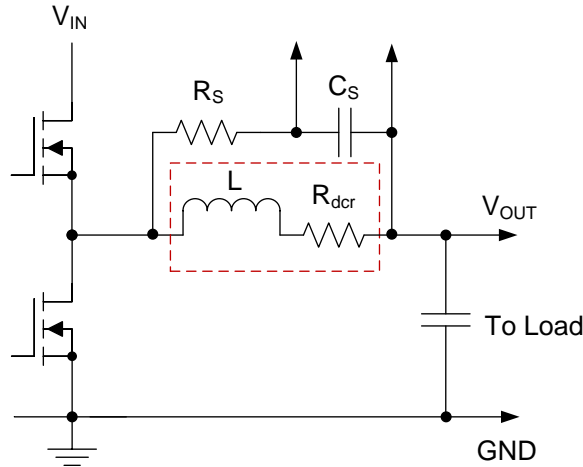
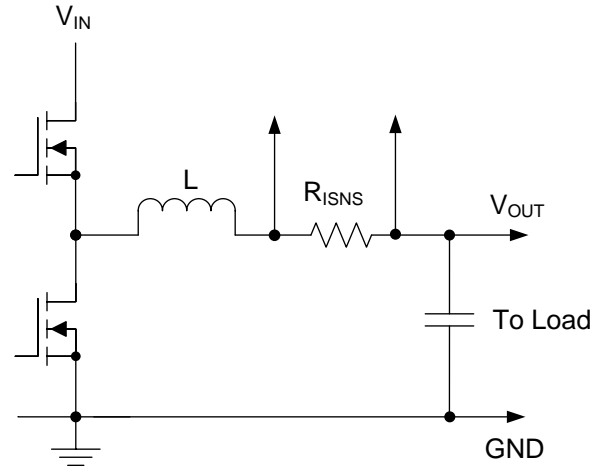
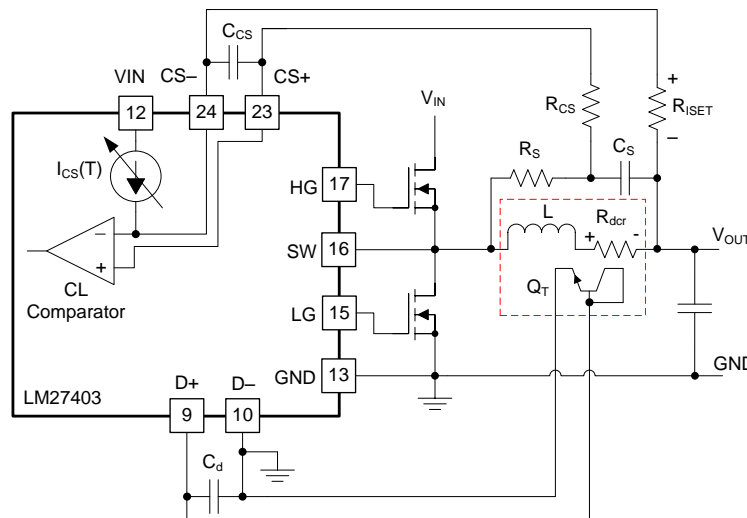

Figure 31. Current Sensing using Inductor DCR
Figure 32. Current Sensing using Shunt Resistor
Figure 33. Current-Limit Setpoint Defined by Current Source I_{CS} and Resistor R_{ISET}
As mentioned, the LM27403 implements an inductor DCR lossless current sense scheme designed to provide both accurate overload (current limit) and short-circuit protection. Figure 31 shows the popular inductor DCR current sense method. Figure 32 shows an implementation with current shunt resistor, R_{ISNS} .
Components R_{S} and C_{S} in Figure 31 create a low-pass filter across the inductor to enable differential sensing of the inductor DCR voltage drop. When $R_{\text{S}}C_{\text{S}}$ is equal to L/R_{dcr} , the voltage developed across the sense capacitor, C_{S} , is a replica of the inductor DCR's voltage waveform. Choose the capacitance of C_{S} greater than 0.1 μF to maintain low impedance of the sense network, thus reducing the susceptibility of noise pickup from the switch node.
The current limit circuit arrangement is portrayed in Figure 33. The current limit setpoint is set by a single external resistor, R_{ISET} , connected from the CS– pin to the output voltage terminal. The current sourced from CS– in combination with this series resistance sets the reference voltage to the current limit comparator, as governed by Equation 8.
Inductor DCR temperature compensation is automatically provided using the remote-diode sensed temperature. The temperature coefficient (TC) of the inductor winding resistance is typically 3720 ppm/°C. The current-limit setpoint is maintained essentially constant over temperature by the slope of CS– pin current over temperature. An increase in sensed DCR voltage associated with an increase of inductor winding temperature is matched by a concomitant increase in current limit comparator reference voltage. The inductor temperature is measured by placing an external diode-connected 2N3904 discrete NPN transistor, designated Q_T in Figure 33, in close proximity to the inductor (see the TEMPERATURE SENSING: D+ and D– section for more details).
Note that the inductor DCR is shown schematically as a discrete element in Figure 31 and Figure 33. The current-sense comparator inputs operate at common mode up to the input rail voltage. The comparator incorporates a very low input-referred offset to reduce the SNR of the voltage detected across the inductor DCR. The CS– pin current is specified down to a headroom compliance voltage of less than 0.8 V (that is, $V_{VIN} - V_{CS-}$) and over the full operating temperature range (see the ELECTRICAL CHARACTERISTICS Table and Figure 14). The current source is powered from the input to allow the current limit circuit to work in high duty cycle applications.
With power inductors selected to provide lowest possible DCR to minimize power losses, the typical DCR ranges from 0.4 mΩ to 4 mΩ. Then, given a load current of 25 A, the voltage presented across the CS+ and CS– pins ranges between 10 mV and 100 mV. Note that this small differential signal is superimposed on a large common-mode signal that is the dc output voltage, which makes the current sense signal challenging to process. To aid in rejection of high frequency common-mode noise, a series resistor, R_{CS} , of same resistance as R_{ISET} , is added to the CS+ signal path as shown in Figure 33. A small capacitor, C_{CS} , added across CS+ and CS– provides differential filtering.
A current sense (or current shunt) resistor in series with the inductor can also be implemented at lower output current levels to provide accurate overcurrent protection, see Figure 32. Burdened by the unavoidable efficiency penalty and/or additional cost implications, this configuration is not usually implemented in high-current applications (except where OCP setpoint accuracy and stability over the operating temperature range are critical specifications). However, if a shunt resistor is used, temperature compensation is not required. In this case, short the D+ to D– pins to disable this function. The current sourced from CS– in this case becomes 5 μA (typical) and is independent of temperature.
In the PCB layout, component pads are recommended to install a small capacitor, designated C_d in Figure 33, between the D+ and D– pins as close to the LM27403 as possible. This capacitor should not exceed 1 nF for 2N3904-type devices. Locate an additional capacitor, typically 100 pF, at the BJT, when operating in noisy environments (for example, where leakage flux from the airgap of a ferrite inductor may couple into the adjacent circuit board traces).